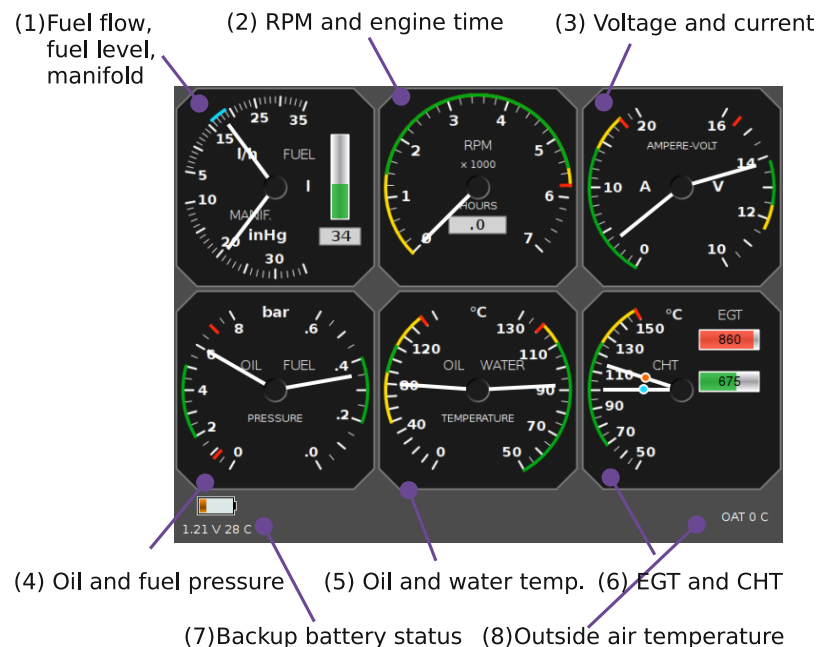

Figure 11: Illustration of the engine monitor screen (Rotax 912 version).
Figure 11 illustrates an example of the engine monitor screen. The engine monitor screen is
6. Cylinder head temperature (CHT) and exhaust gas temperatures (EGT) share the same indicator. On figure 11 only two CHTs are monitored, hence needles for hot (orange dot) and cold (blue dot) are displayed.⁹ When more than two cylinders are monitored, bars are used instead the needles. The same is true for the EGTs.